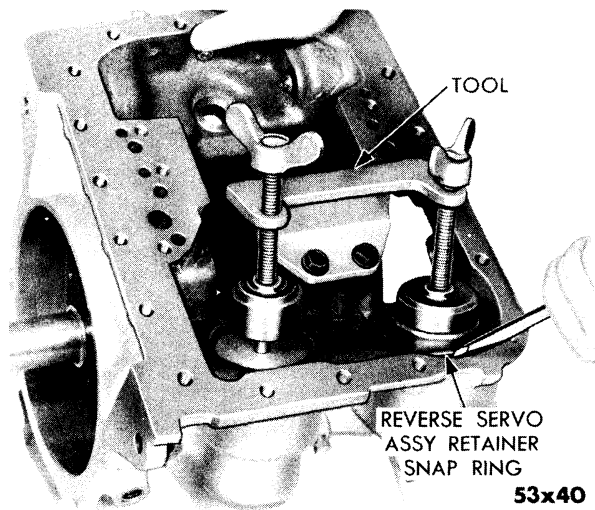
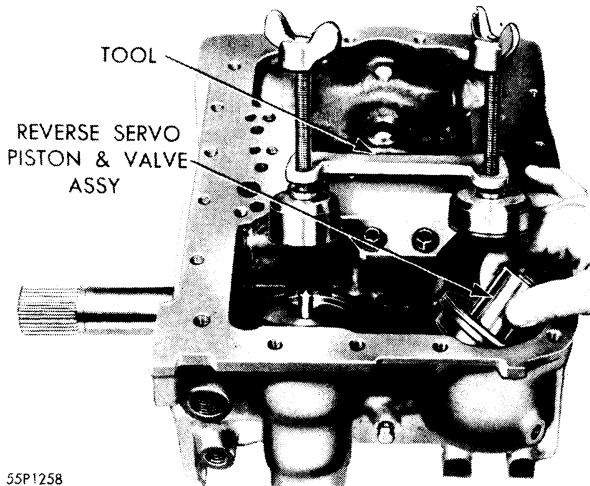

Fig. 97—Removal and Installation of Reverse Servo Assembly Retainer Snap Ring
Fig. 98—Removal or Installation of Reverse Servo Piston
- (3) Using a screwdriver, remove the reverse servo piston and valve assembly spring retainer snap ring. (Fig. 97.) Loosen compressing portion of tool. **Spring retainer may require guiding out of transmission case.**
- (4) Remove the spring retainer, spring, servo piston, and valve assembly. (Fig. 98.)
- (5) Remove servo piston ring (lip type neoprene) from piston.
- (6) Using pliers, Tool C-3229, remove reverse servo piston valve spring snap ring.
- (7) Remove spring and valve from piston. Inspect servo bore for scoring. Light scores may be removed with crocus cloth.
- (1) Place the reverse servo piston valve and spring in reverse servo piston. (Shaft on valve protruding through hole in bottom of piston.)
- (2) Using pliers, Tool C-3229, install the reverse servo piston valve spring snap ring. Make sure snap ring is properly seated.
- (3) Coat the new reverse servo piston ring (neoprene) with MOPAR Lubriplate and install on piston.
- (4) Insert reverse servo piston and valve assembly into transmission case in a cocked position. By rotating piston, the piston ring will enter case without being damaged. (Fig. 98.)
- (5) Place reverse servo piston spring over piston and position spring retainer over spring.
- (6) Compress spring, with Tool C-3289, sufficiently to install snap ring. (Fig. 97.) **Spring retainer may require guiding into case. Make sure snap ring seats properly.**
- (7) Inspect interior of reverse servo piston sleeve for burrs. Place piston sleeve over piston. Make sure sleeve slides freely on piston by working it up and down. Remove installing tool from transmission case.